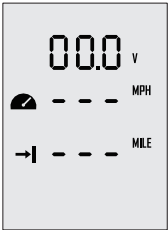

Figure 6-1
**Step1:** In power-on state, press “M” button and hold to enter the preference setting page as shown in Figure 6-1. Users can choose display items based on personal needs and preference.
**Step2:** On the preference setting page, the blinking item is the object waiting to be set. Press the “^” button to view options for the blinking item. For example, in Figure 6-1, if “V” is blinking on the preference setting page, it means that “V” has other alternate options. Just press the “^” button, and “V” will switch to “%”, i.e. the displayed item is switched from voltage to battery level.